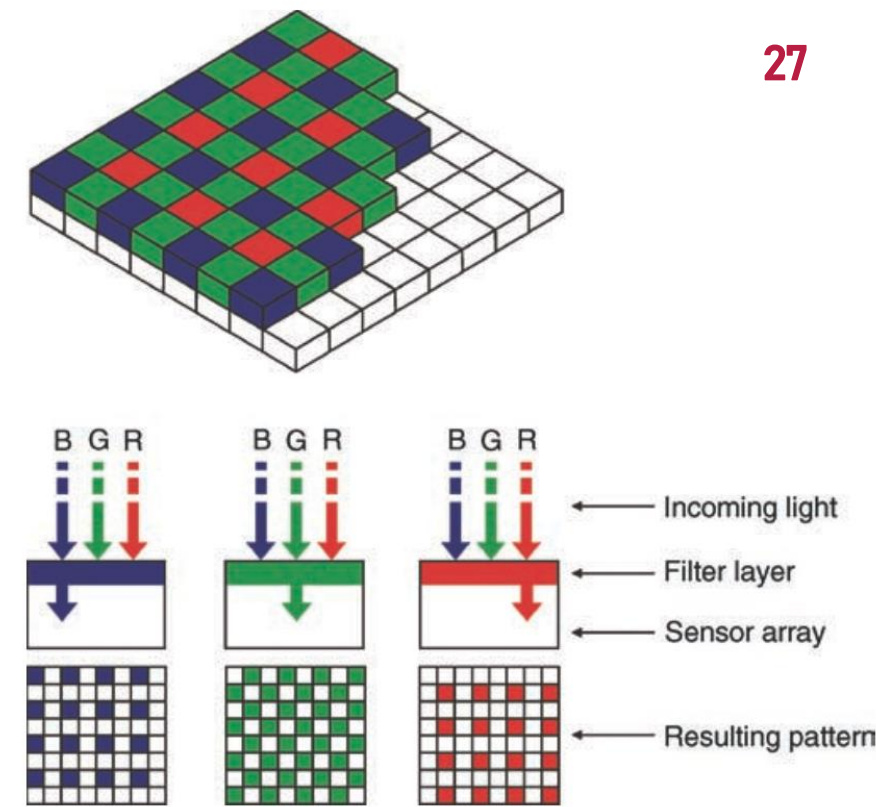

FIGURE 5.6 The Bayer pattern for single-CCD cameras.
- In single-CCD cameras, colors are obtained by using a *tricolor imager* with different photosensors for each primary color of light (*red*, *green*, and *blue*), usually arranged in a Bayer pattern (Figure 5.6). In those cases, each pixel actually records only one of the three primary colors; to obtain a full-color image, a *demosaicing* algorithm—which can run inside the actual camera, before recording the image in JPEG format, or in a separate computer, working on the raw output from the camera—is used to interpolate a set of complete R, G, and B values for each pixel.